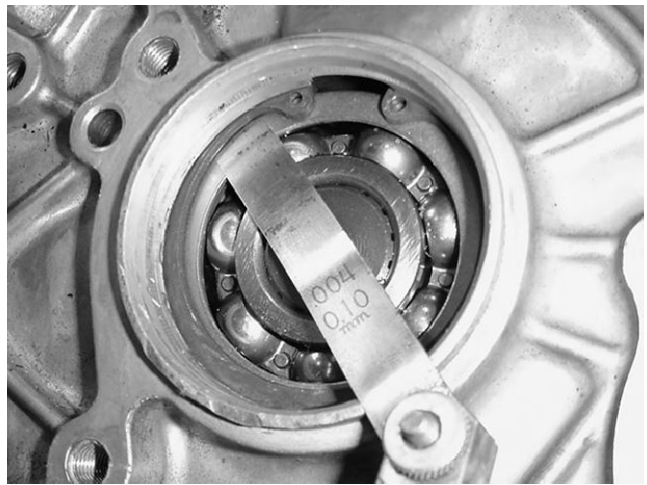

Figure 97
25. Measure countershaft end play. Rotate one of the axle shafts back and forth to take up all back lash. Rotating the shaft in one direction will pull the shaft and bearing away from the snap ring. Rotate axle shaft in this direction, then measure space between the snap ring and shim (set) with a feeler gauge. Make sure shim (set) is held against the bearing during the measurement. End play should be from 0.000 to 0.0039 in. (0.00 to 0.10 mm) (Fig. 97).